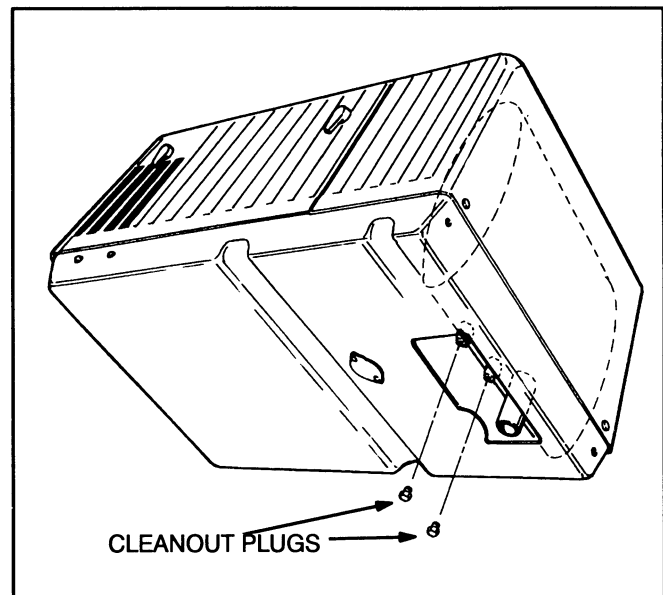

FIGURE 14. SPARK ARRESTOR CLEANOUT PLUGS
1. Remove the cleanout plugs from the bottom of the muffler (Figure 14).